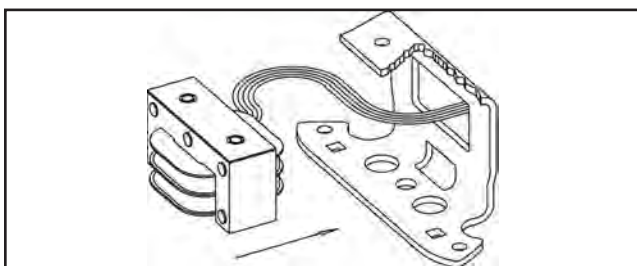

Figure 6
2. Remove acorn nuts (23), washers (22), and pull cover (20) off. (You may have to tap lightly with a rubber mallet.)
4. Replace with new magnet assembly, making sure shock mount is in place. Feed coil wires through hole in back of bracket (15C) as shown in Fig. 6. Tighten mounting screws to 55-60 lb-in torque.
8. Replace cover (20), washers (22), and acorn nuts (23). Tighten nuts to 5 lb.ft. torque.